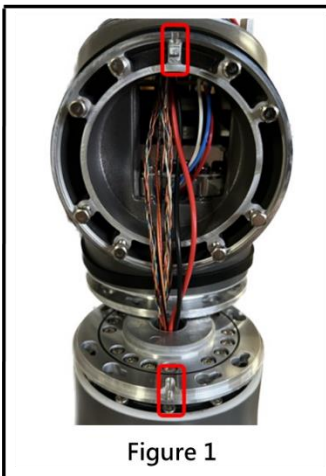
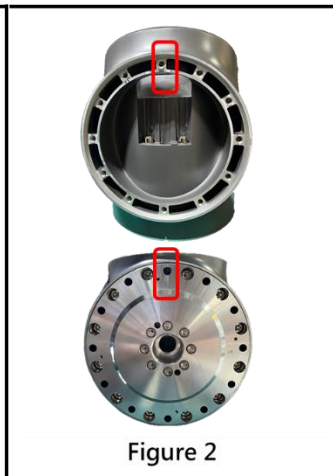

Figure 1
Figure 2
6.5.3 When assembling the joint, to ensure the correct installation orientation, it is necessary to interlock the key and slot between the joints (refer to Figure 1 & Figure 2) (refer to Figure 3). Operators can visually align the holes or insert a $\varnothing 1.9\text{mm}$ pin into the hole to verify proper installation (refer to Figure 4). If the hole of two joints are not in the same direction, or if misalignment prevents the insertion of the locating pin, do not proceed with further assembly.